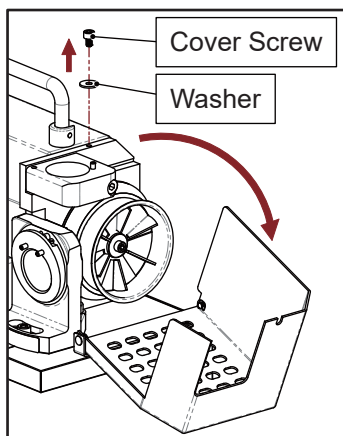

Fig. 10-2
③ Loosen the screw from the grinding wheel cover to open the cover. (Fig. 10-2)